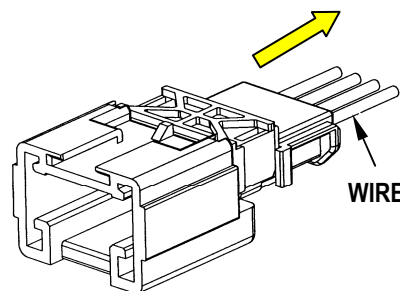

Figure 7
6. Slide the Extractor Tool in the direction shown pushing down the housing lock. While pushing the housing lock down, push the terminal back through the connector slot and pull the terminated wire out in the arrow direction. See Figure 7.